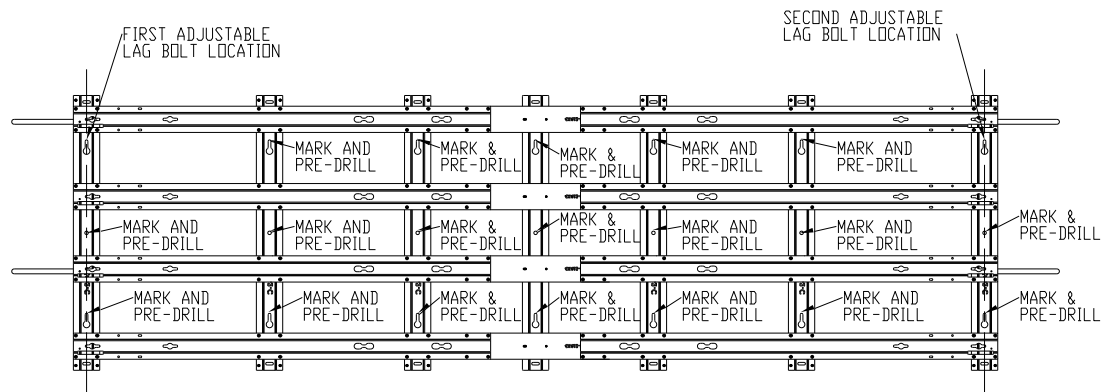

Figure 2
Use the frame as a template to mark the other locations of the adjustable lag bolts. Use three (3) per vertical channel, two keyholes and the center hole (**Figure 2**).
Loosen and remove the hex nut and flat washer securing the upper frame to the wall. Place the upper frame back on the floor. Pre-drill marked holes using the 3/16" or 5mm drill bit then install the other adjustable lag bolts until the hex part of the bolt is flush to the wall (**Figure 2**).
Mark the locations of the adjustable lag bolts for the lower frame. Three per V-Channels (**Figure 2**). Detach the lower frame from the top frame by unscrewing the screws on the Vertical joiner plate then place lower frame back on the floor.